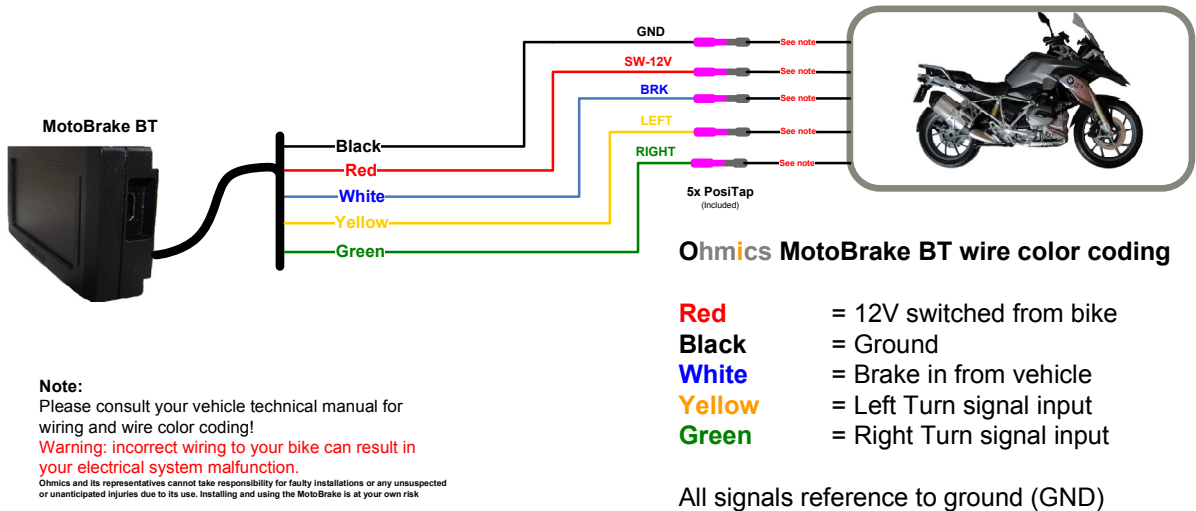

Fig 1. MotoBrakeBT wiring
1. Ensure the unit is properly connected to the motorcycle as per diagram in Figure 1. The vehicle ignition needs to be on to be able to see device confirmation flashes during configuration